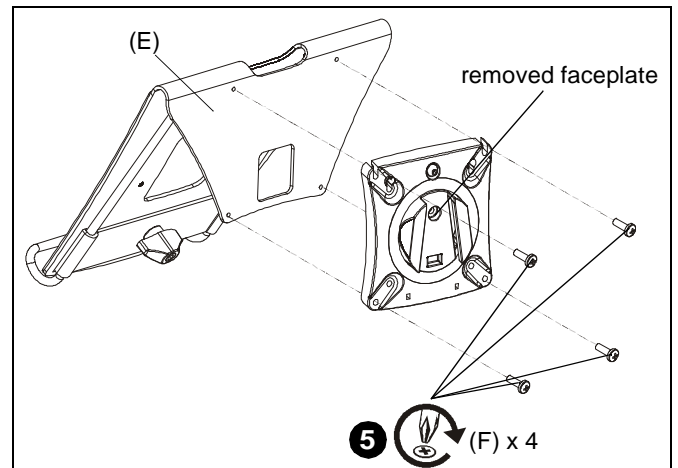

Figure 4
5. Use four M4x12mm Phillips pan machine screws (F) to attach laptop tray (E) to removed faceplate. (See Figure 4)